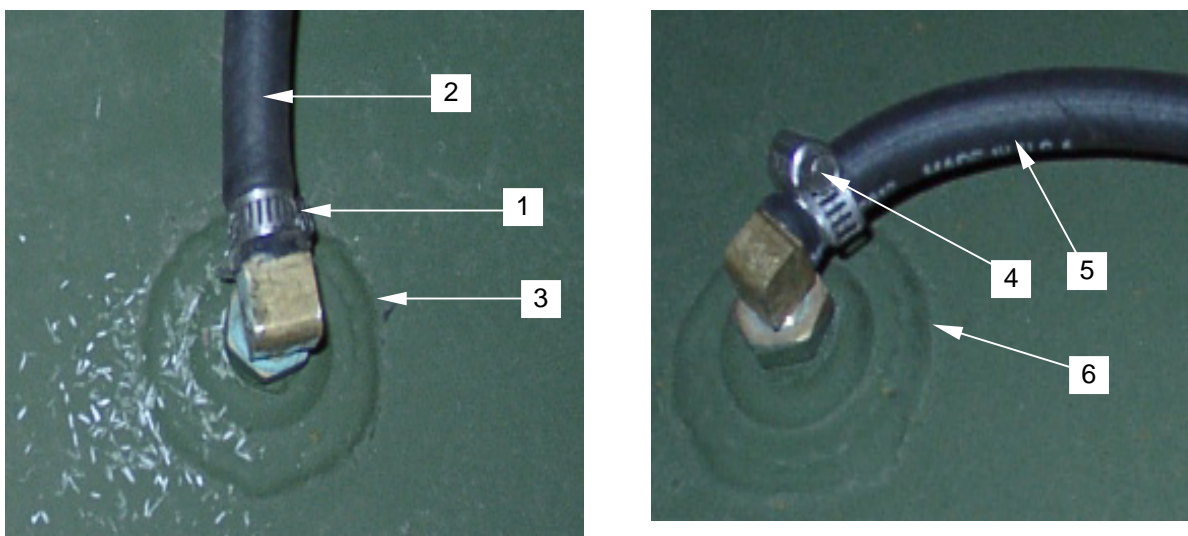

Figure 3. Disconnecting Fuel Supply and Return Hoses at the Fuel Tank
5. Disconnect the hose clamp (**figure 3, item 1**) of $\frac{5}{16}$ -inch fuel supply hose (**figure 3, item 2**) at the fuel tank (**figure 3, item 3**).
6. Disconnect the hose clamp (**figure 3, item 4**) of $\frac{1}{4}$ -inch fuel return hose (**figure 3, item 5**) at the fuel tank (**figure 3, item 6**).